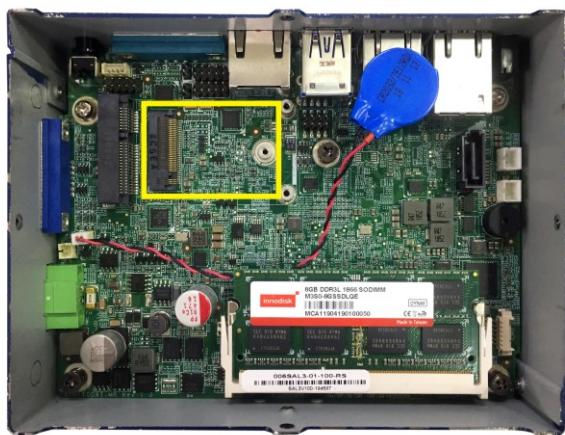

Figure 3-6: WLAN M.2 Card Slot Location
Step 3: Locate the M.2 card slot (**Figure 3-6**).